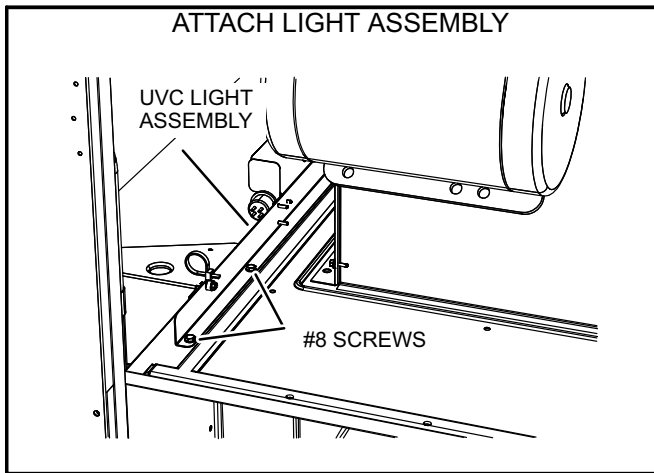

FIGURE 38
- 8- Carefully place the UVC assembly on the blower deck. Line up the mounting holes on the UVC assembly with the mounting holes on the blower deck. See figure 38. Use the #10 screws provided to attach the UVC assembly in place.